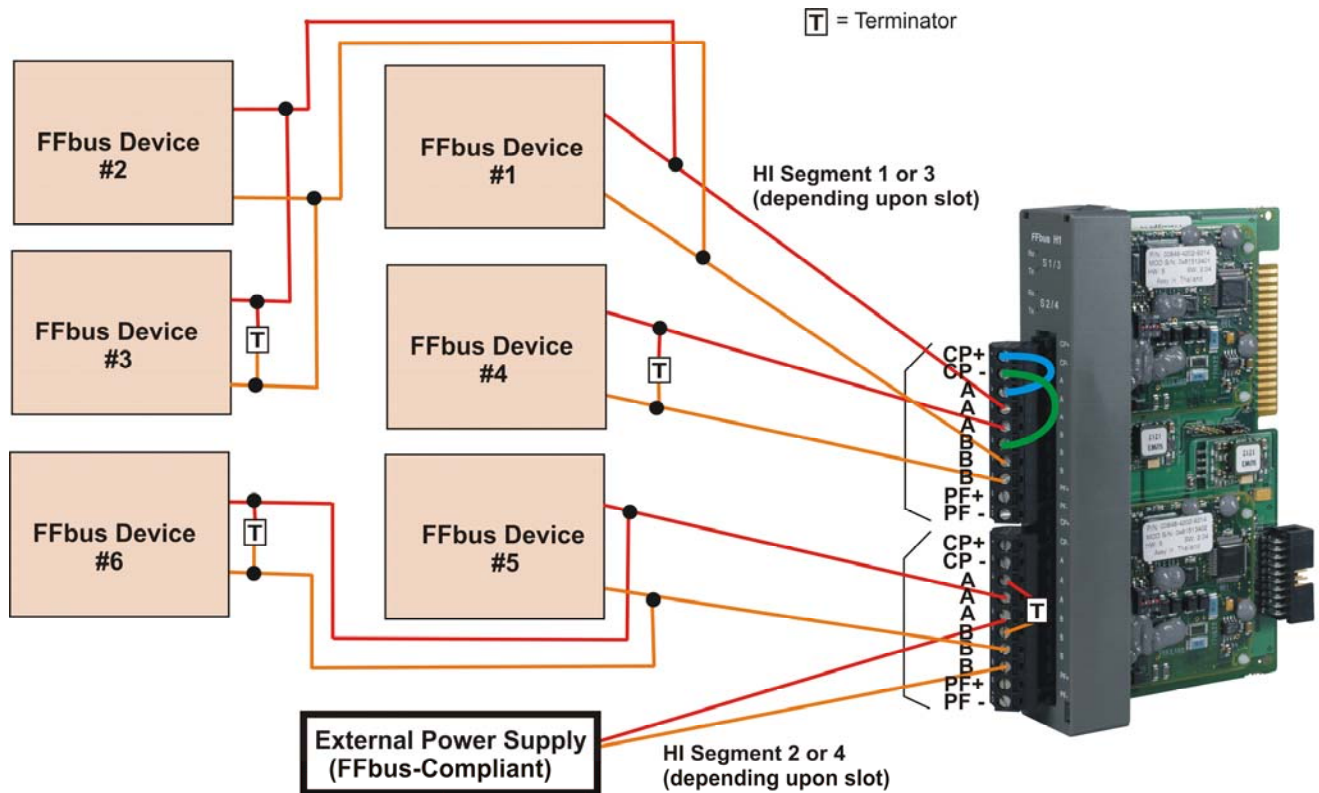

Figure 2-8. Wiring FFbus Devices to the CWFFI (Internal power – top, External power – bottom)
To begin, you connect one wire from the FFbus device to one of the A terminals on the H1 segment board. Then you connect the other wire to one of the B terminals on the H1 segment board. *Figure 2-8* shows this type of connection for FFbus devices #1, #4, and #5.
You can connect additional FFbus devices in a chain using parallel connections. For example, in *Figure 2-8*, FFbus device #2 connects in parallel to FFbus device #1, and FFbus device #3 connects in parallel to FFbus device #2. Similarly, FFbus device #6 connects in parallel to FFbus device #5. The last device in any chain requires a terminator (shown by a “T”) in the figure.
If you want to power FFbus devices on a segment by the H1 segment board, you must connect jumper wires from CP+ to A on the terminal block, and CP- to B on the terminal block (see upper segment in *Figure 2-8*). CP refers to the conditioned power. Again, you must also set jumpers properly (see *Section 2.3*).
If using external power, wire an **FFbus-compliant** power supply to the H1 segment board, as you would any FFbus device. (See lower segment in *Figure 2-8*.) FFbus devices #5 and #6 in the figure use the external supply. The power supply does not count towards the maximum device total for the segment. You must wire a terminator between the A and B terminals on the segment’s terminal block.
- Verify the wiring for the H1 module (see *Figure 2-8*); note the relationship between the CP+ and CP– and A and B connections.